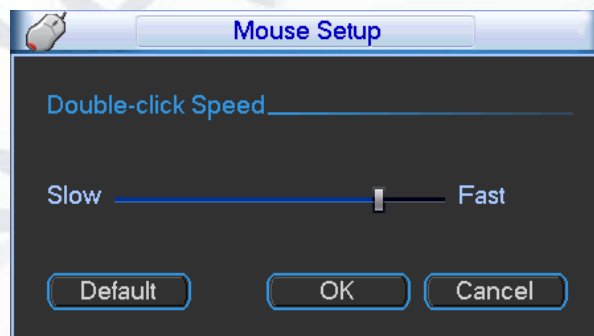

Figure 4-23
- **Mouse property:** By Clicking the mouse setup button the mouse setup interface will appear (See Figure 4-23). You can set double click speed via dragging the slide bard. You can Click Default button to restore default setup.